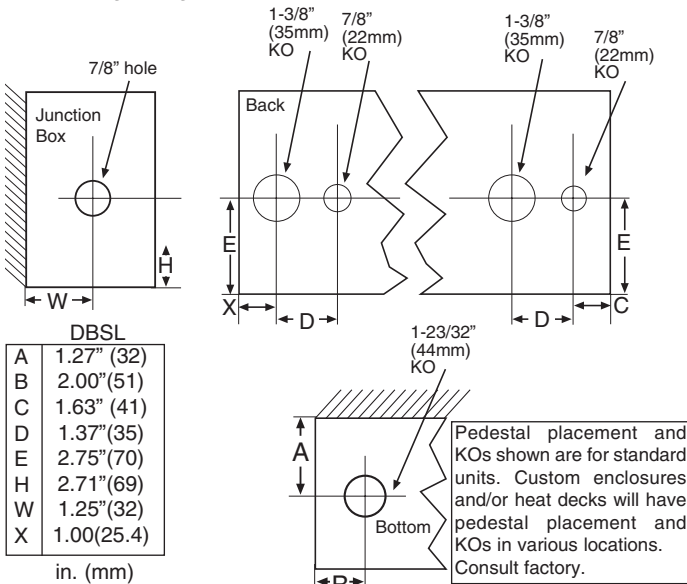

Fig. 3
1. Run branch circuit of proper voltage and wire size to location of left or right junction box as indicated on heater wiring diagram. Basic heaters are prewired and can be connected to branch circuit at either end. Heaters with controls are prewired for connection to branch circuit at one end only (refer to heater wiring diagram). However, heater can be wired from opposite end by running wires through heater wireway. See Fig. 3 for knockout locations.
3. Remove appropriate electrical knockouts from either junction box. See Fig. 3 for location of knockouts. If heater is to be pedestal mounted, consult pedestal kit installation instructions.
2. Refer to wiring diagram for power supply entry and remove appropriate electrical knockout (Fig. 3) from the heater in which power supply connections are to be made. The power supply may be brought into the end of one heater and the remaining heaters may be connected in parallel using the wireway. Use Table B to size the field installed wiring in the wireway or use Table A to determine the maximum length or heater run possible using the factory installed wire in the heater wireway.